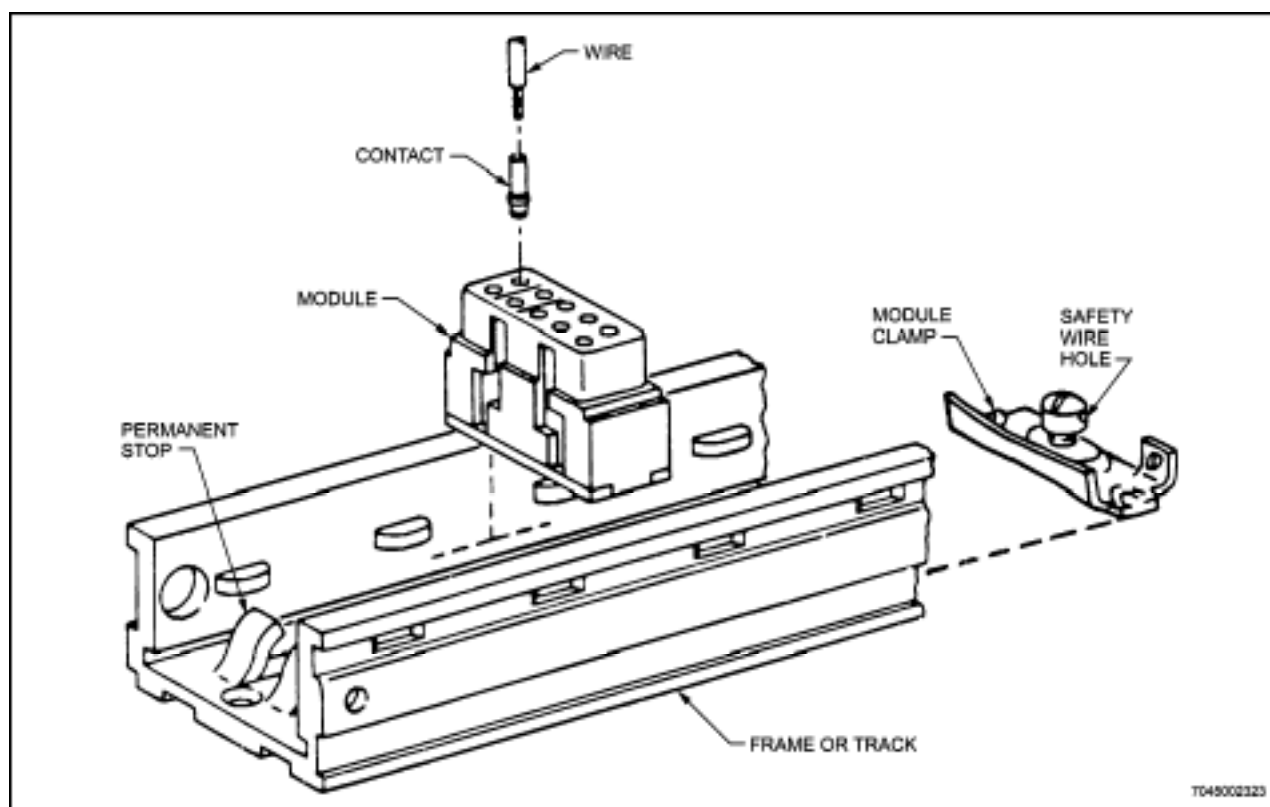
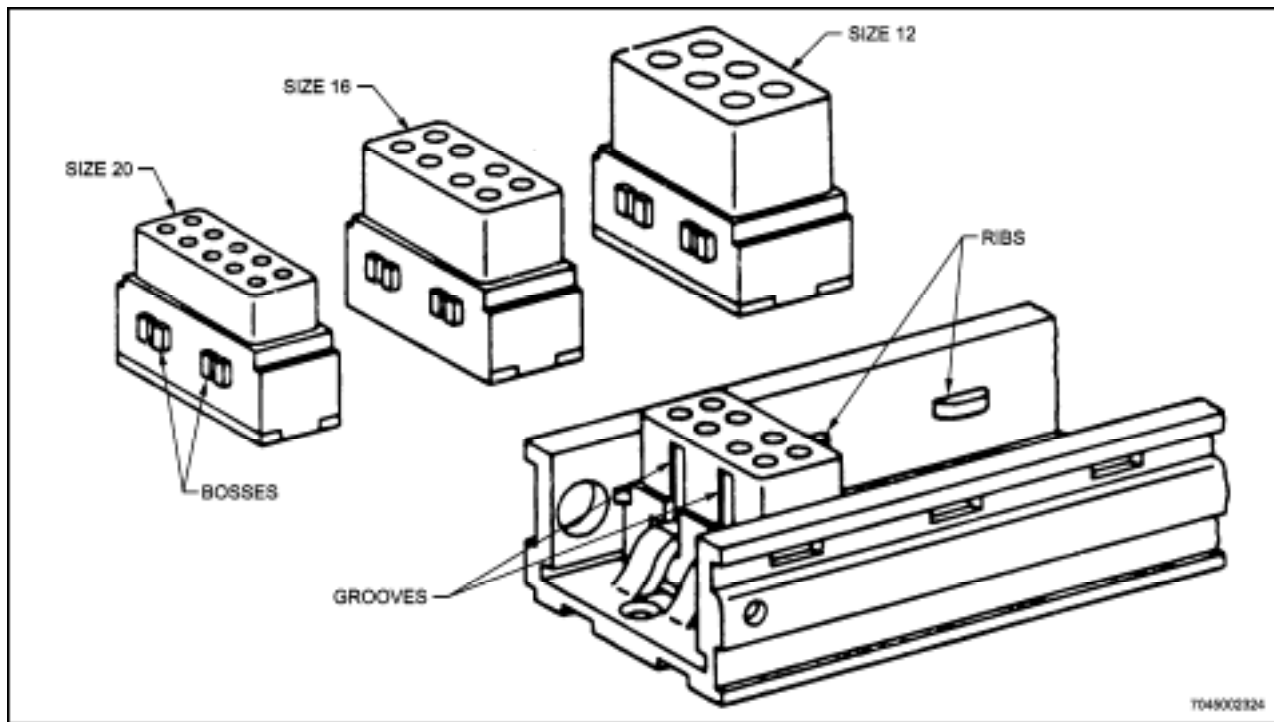
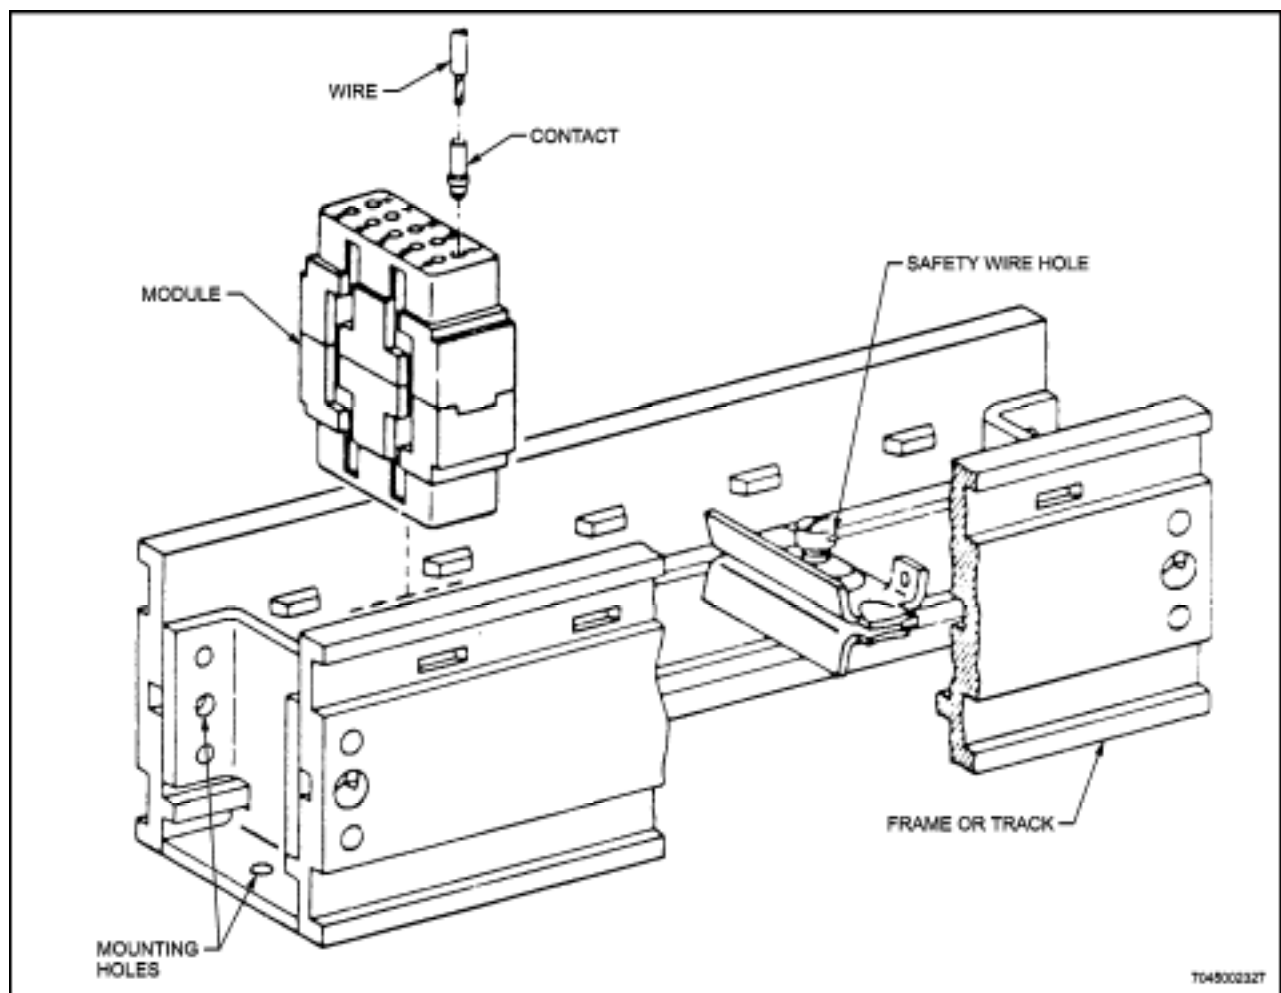

Figure 4-33 Feedback Terminal Junction Assembly Series I
Figure 4-34 Feedback Terminal Junction Assembly Series I
Figure 4-37 Feed-Through Terminal Junction Assembly Series I
- (1) Feedback type - all connections made to one side of module. (See Figure 4-33 and Figure 4-34.)
- (2) Feedthrough type - connection carried through from one side to the other of the module. (See Figure 4-37.)
- b. Tracks or frames (holders) for modules. (See Figure 4-33 and Figure 4-37.)
95. Installation and removal of Series I modules from the tracks is accomplished as follows (See Figure 4-33, Figure 4-34 and Figure 4-37):